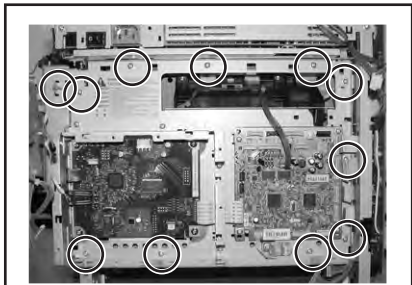

Figure 11. Removing 11 screws from the HP Color LaserJet 2600 shield plate.
- Remove 11 screws, circled in Figure 11, securing the shield plate. Remove the plate with formatter and DC controller.